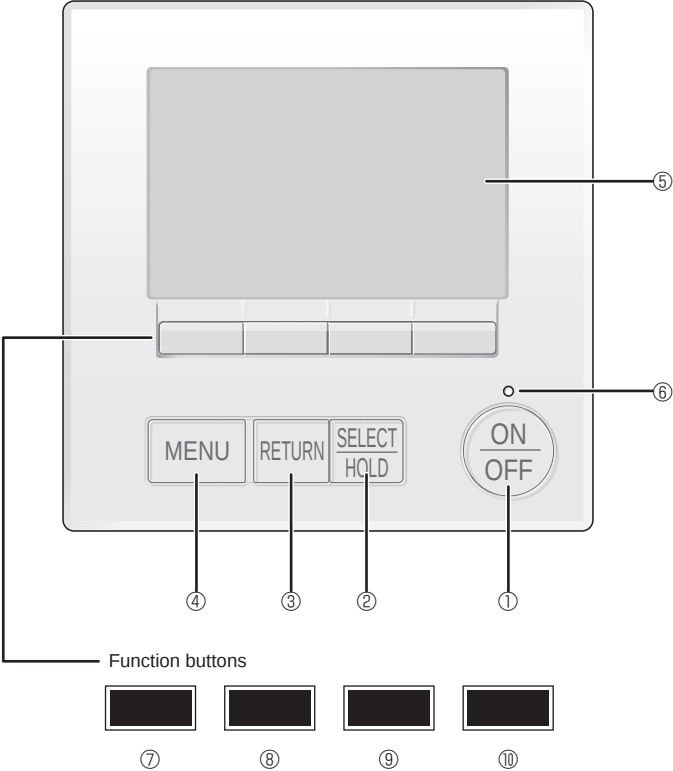

Fig. 7-2
7.3.1. Using wired MA remote controller (Fig. 7-2)
- ① **[ON/OFF] button**